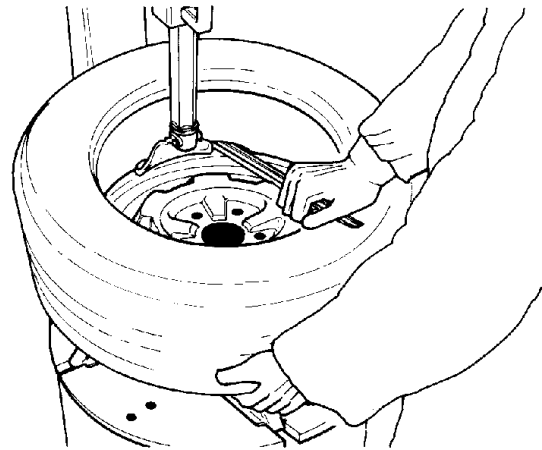

Fig.17
**H.** Repeat the process for removing the lower bead. This time, lift the bead opposite to the mount/demount head to keep it in the drop center (Fig.17).